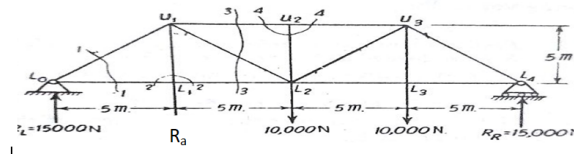

Figure 1
- (b) Find the forces in the Pratt-truss loaded as shown in Figure 1 [7M]